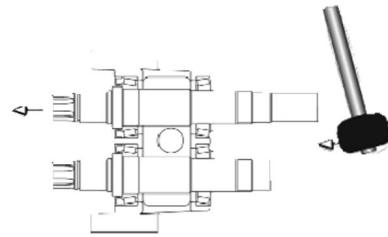

Figure 20
c) Before loosening the gear-nuts (12) lock the rotors on the shaft using the plastic block (92) supplied for this purpose. Loosen the gear-nuts (12) using a C-spanner (91).
d) Remove gear-nuts (12), tab washers (11), timing gears (20) and drive shaft keys (10), from the shafts.
e) Remove the six screws (27) and washers (26) from the front of the bearing carrier.
f) Using a light press or soft hammer, drive out the shafts (16 & 17) towards the front (rotor-case end) of the bearing carrier (24) (See Figure 20). This will push out the front bearing retainers (2). The outer race of the front bearing (23) will also slide out of the bearing carrier.